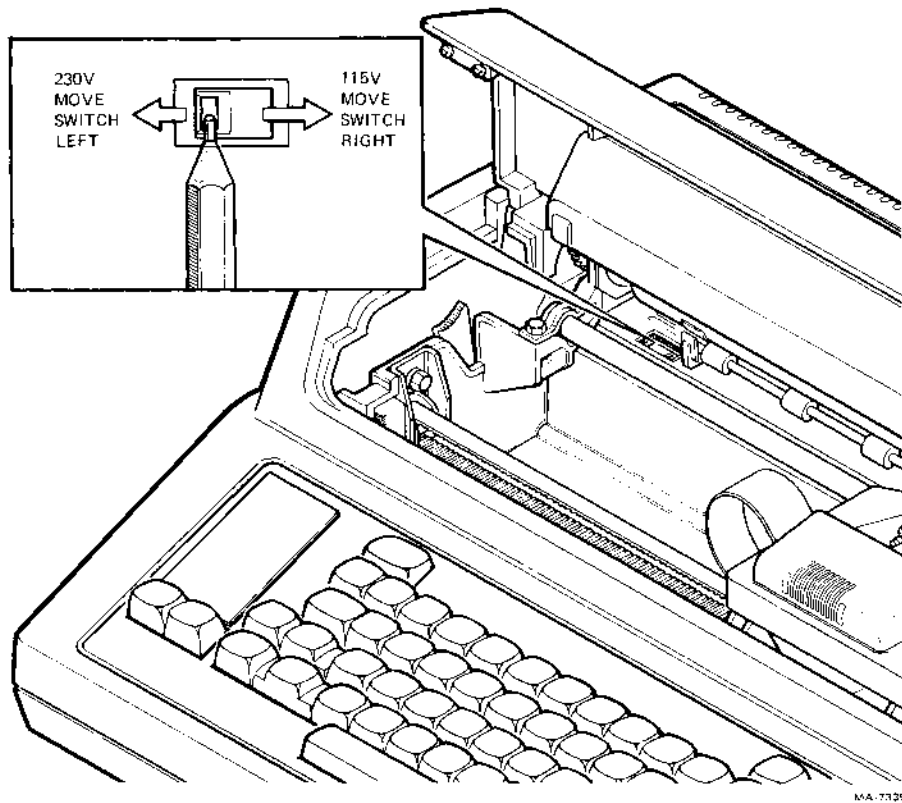

Figure 2-4 AC Voltage Selector Switch
Figures 2-4 and 2-5 illustrate two different locations of the 115/230 voltage selector switch. If the location of this switch in your terminal is as shown in Figure 2-4, perform the following steps to select the proper voltage range. If the switch is located as shown in Figure 2-5, refer to Alternate AC Voltage Selection (Paragraph 2.5.3) for the procedure to select the proper voltage range.
2. Using a small blade screwdriver or ballpoint pen select the desired ac input voltage range (Figure 2-4).